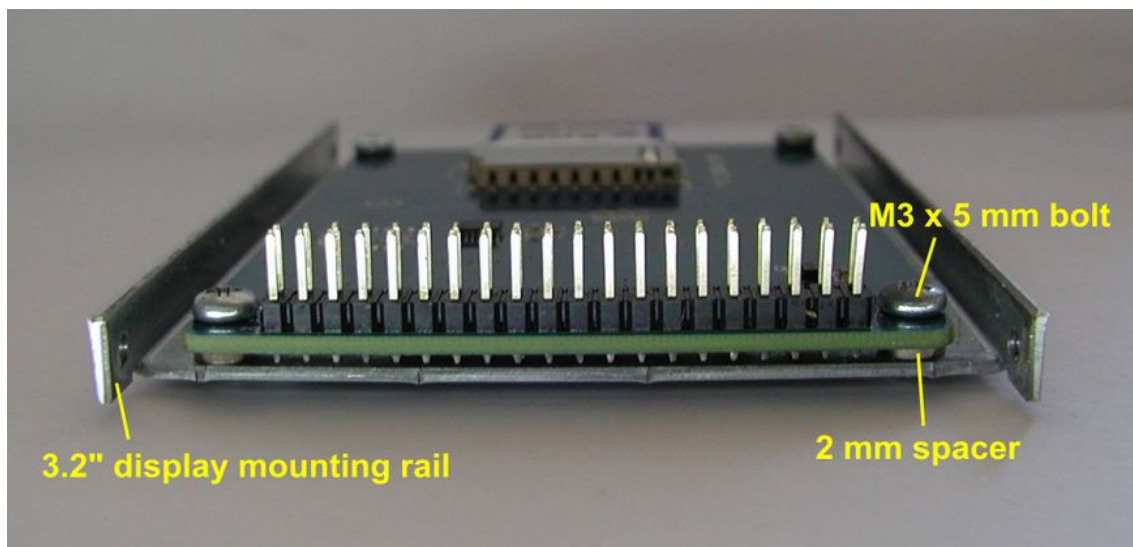

Fig. 18: 3.2" TFT display mounting
- Mounting rail for TFT touch-screen display (Fig. 18)
The 3.2" TFT touch screen display has to be mounted first on the display mounting rail as shown on Fig. 18.